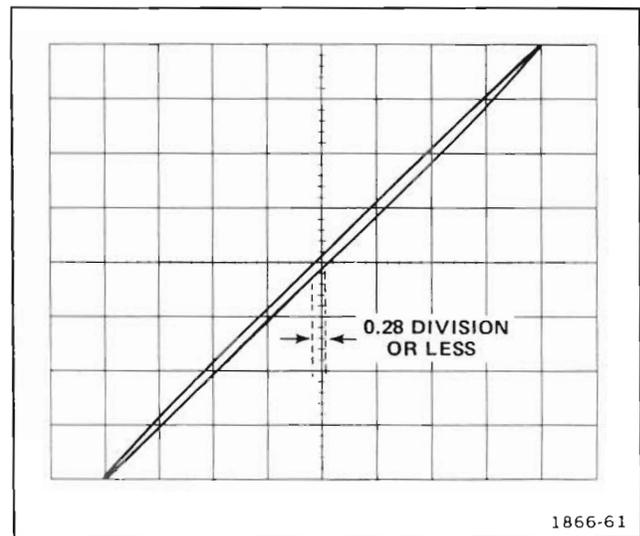

Figure 5-3. Typical display when checking X-Y phase shift.
- e. Center the resultant Lissajous display on the graticule as shown in Figure 5-3.
- ✓ f. CHECK—For 0.28 division or less of opening at center of the Lissajous display (measured horizontally). See Figure 5-3.